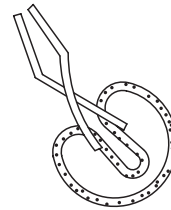

Fig. 3
- (3) When using jigs for fitting seal rings, use the jigs with round edges to avoid damaging the seal rings. (Fig. 3)